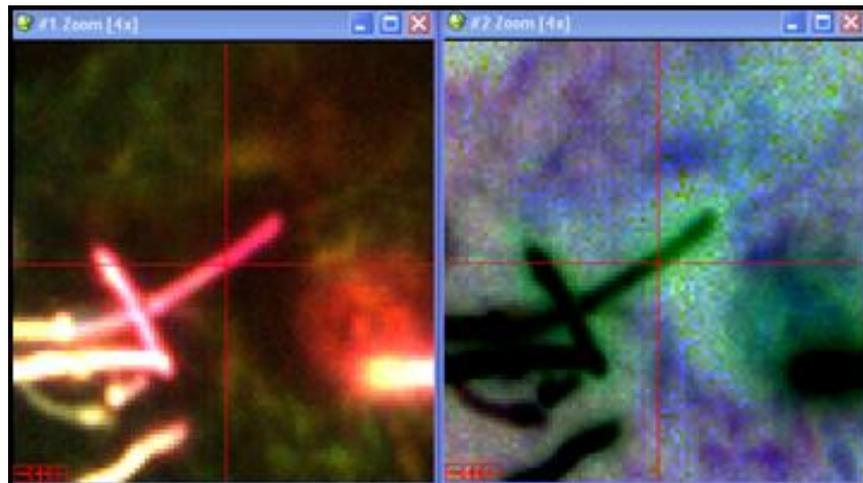

Figure 7.3c: Original image (left) and converted absorption image (right)
- The Input file will be converted and the new image will automatically open in the Available Bands List and in a display. Below are the Zoom image from the original scan and the converted absorbance scan (Figure 7.3c).